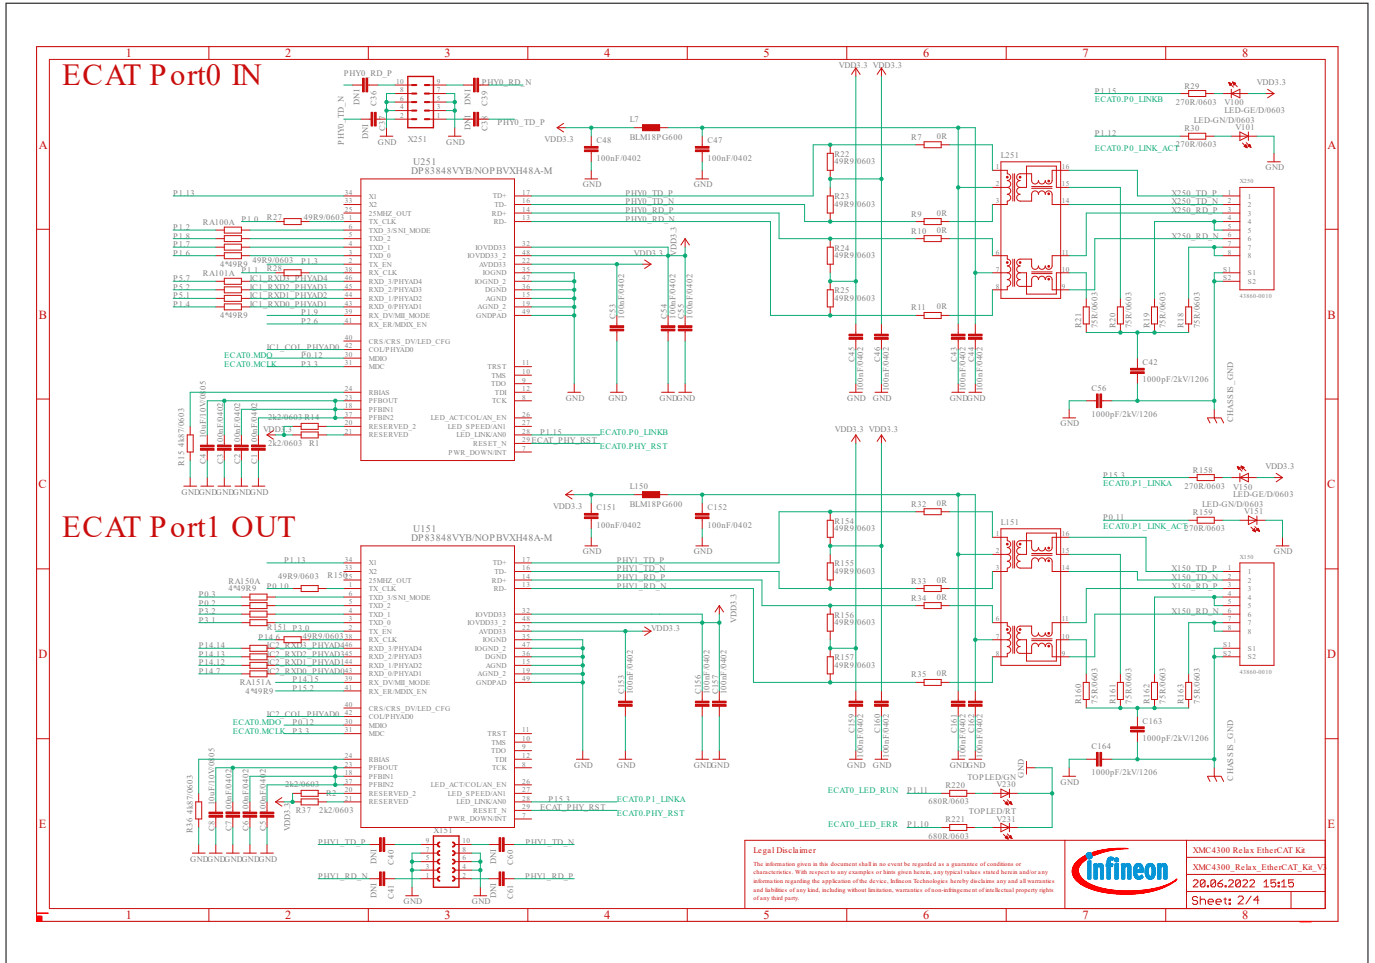

Figure 12 Schematic: EtherCAT® Phys, Magnetics, Phy-2-Phy (see revision Revision 1.1)
- Figure 12 (See Revision 1.1)